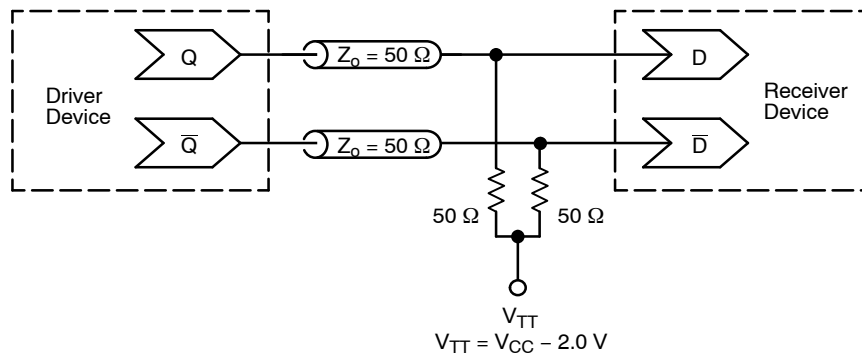

Figure 9. Typical Termination for Output Driver and Device Evaluation
2. All loading with 50 Ω to $V_{CC} - 2.0\text{ V}$ (see Figure 9).
2. All loading with $50\ \Omega$ to $V_{CC} - 2.0\text{ V}$ (see Figure 9).
1. Measured using a 750 mV source, 50% duty cycle clock source. All loading with $50\ \Omega$ to $V_{CC} - 2.0\text{ V}$ (see Figure 9).